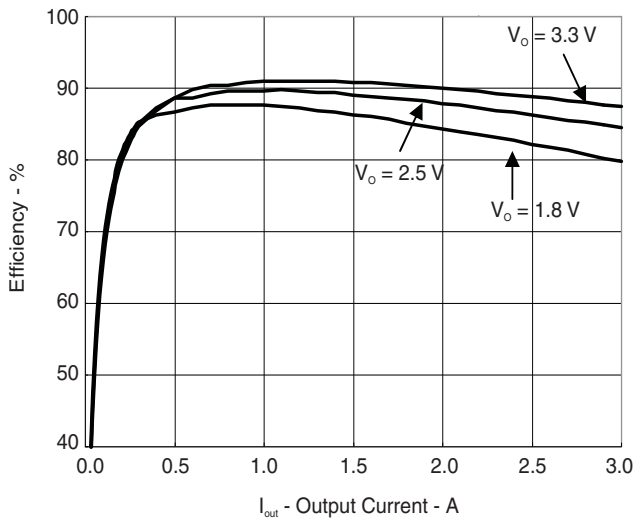

Figure 7. EFFICIENCY vs. OUTPUT CURRENT (V_{IN} = 12 V)
- Figure 7 title was change to Efficiency vs. Output Current ($V_{IN} = 12\text{ V}$) 10